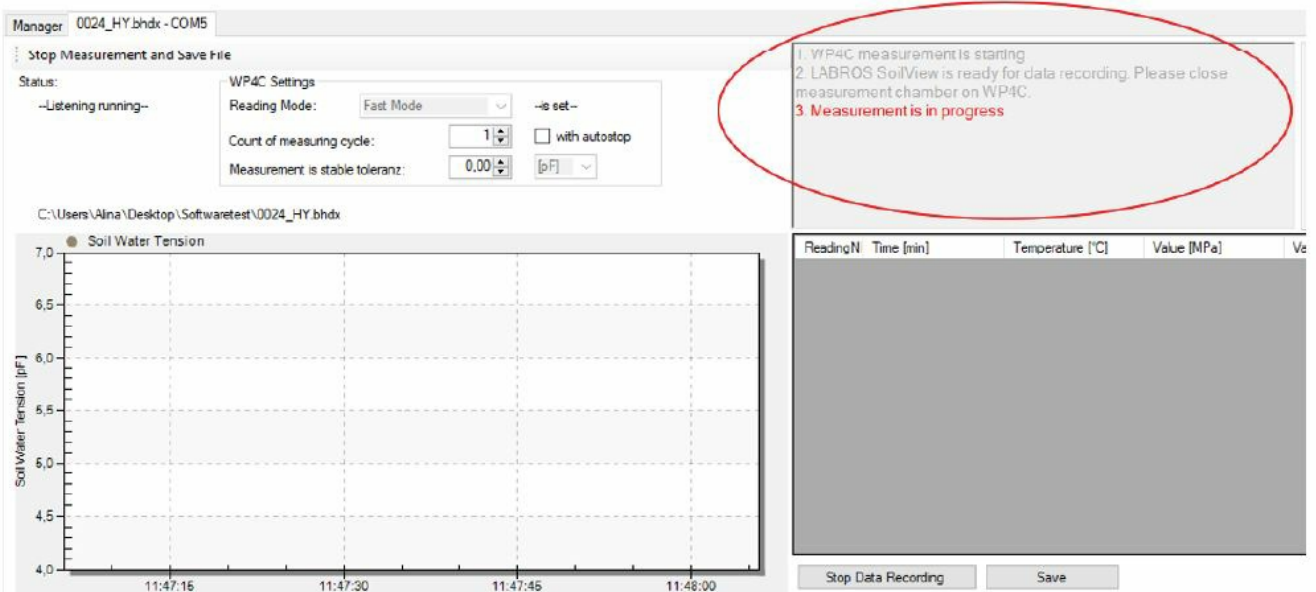

Figure 5 Measurement Status
6. The status of the measurement and the next steps to perform are displayed in the upper right corner of the software screen, see Figure 5.